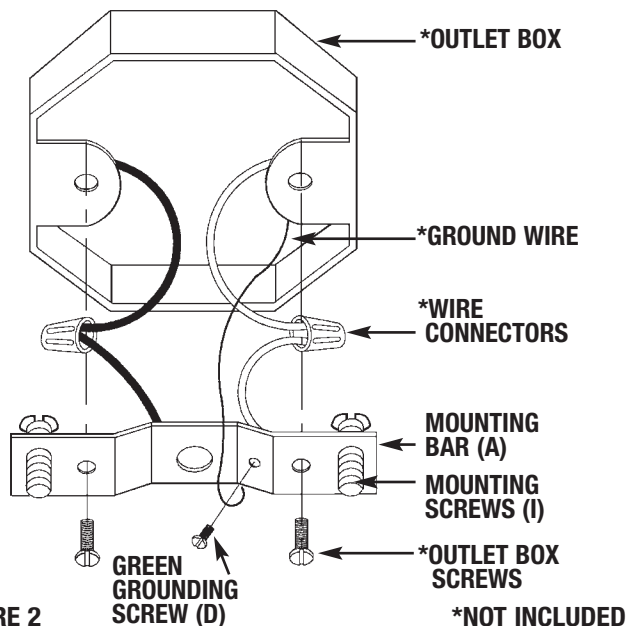

FIGURE 2
GROUNDING INSTRUCTIONS: The green grounding screw (D) is to be inserted into the hole with two raised dimples provided on the mounting bar (A). Wrap the ground wire from the fixture (if supplied) and the ground wire from the outlet box (bare metal or green insulated wire) around the green grounding screw (D) on the mounting bar (A). If uninsulated ground wire is on the mounting bar, connect the ground wire from the fixture (if supplied) and the outlet box to it using a small wire connector (not supplied) (See Figure 2).